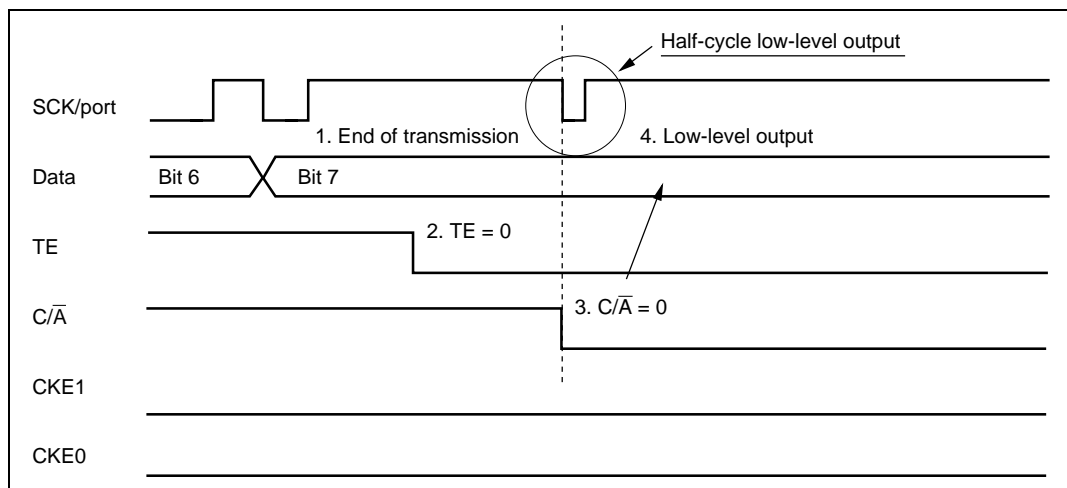

Figure 12.23 Operation when Switching from SCK Pin Function to Port Pin Function
4. Occurrence of low-level output (see figure 12.23)